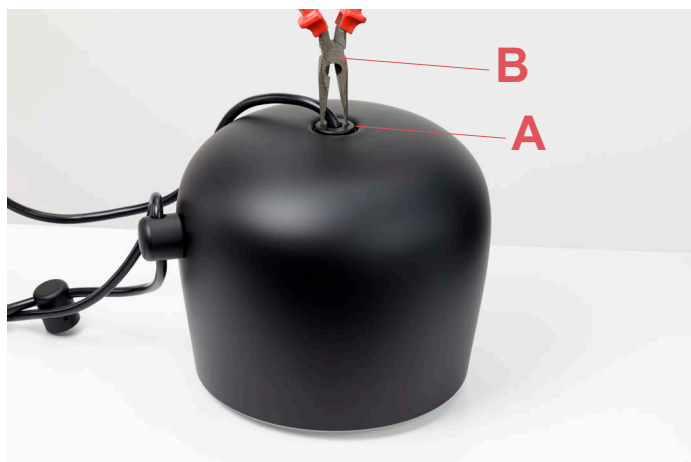

Fig.1
Screw the joint (A) with a pair of pliers (B).(Fig.1 page 13)
Re-assemble the Joint (A).(Fig.1 page 21)
Screw the joint (A) with a pair of pliers (B).(Fig.1 page 21)